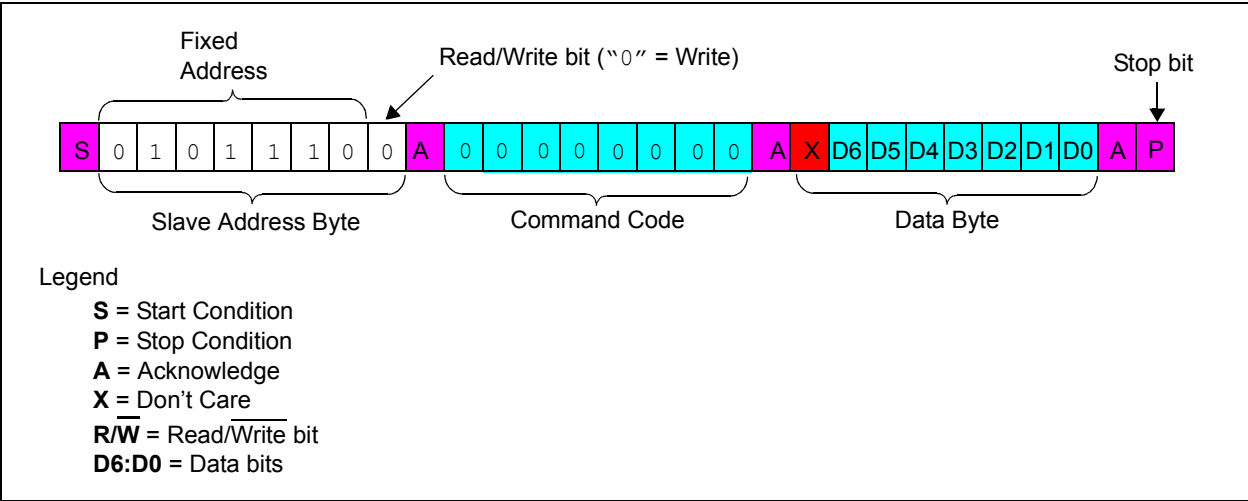

FIGURE 5-11: I2C Single Byte Write Command Format.
Data bytes may be written after each Acknowledge. The command is terminated once a Stop (P) condition occurs. Refer to Figure 5-11 for the single byte write sequence and Figure 5-12 for the generic (multi-byte) write sequence. For a single byte write, the master sends a Stop or Restart condition after the first data byte is sent.